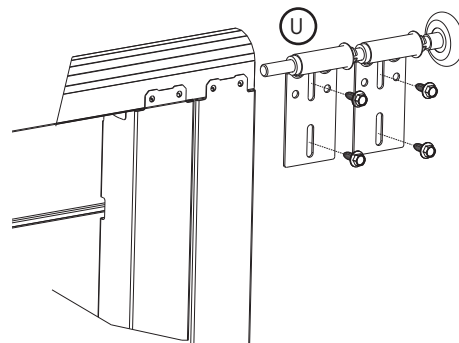

Fig: 2.2.7
b) Attach the top hangers to the top corners of the panel, using the vertical slots only Fig 2.2.7.